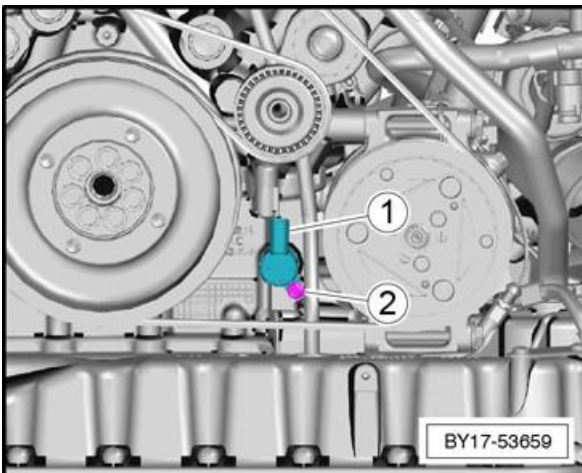

Figure 2
One failure mode for the oil control valve (item 1 Figure 2) results in low engine oil pressure when engine rpm is above 3500 and as with any low oil pressure occurrence the *Oil pressure too low* warning will be displayed in the driver instrument panel. Obviously this warning is legitimate and when it is the case that the oil control valve has failed then a replacement valve will rectify the issue, but other causes of low engine oil pressure will trigger this warning and these should not be overlooked. It is therefore critical that the root cause of the low oil pressure is identified.
In the event of *Oil pressure too low* warning displayed in the driver instrument panel as shown in Figure 1 and event code P15AA00 evident in one or both of the engine control modules then carry out the following checks to confirm the diagnosis is correct before considering replacing the oil control valve (item 1 Figure 2)